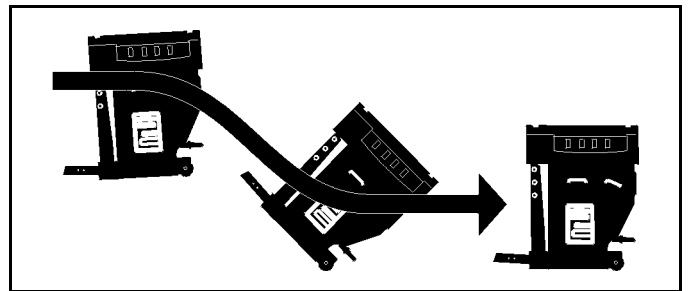

Figure 2-3
5. Slide spreader from hitch receiver and carefully place on floor. (See Figure 2-3)